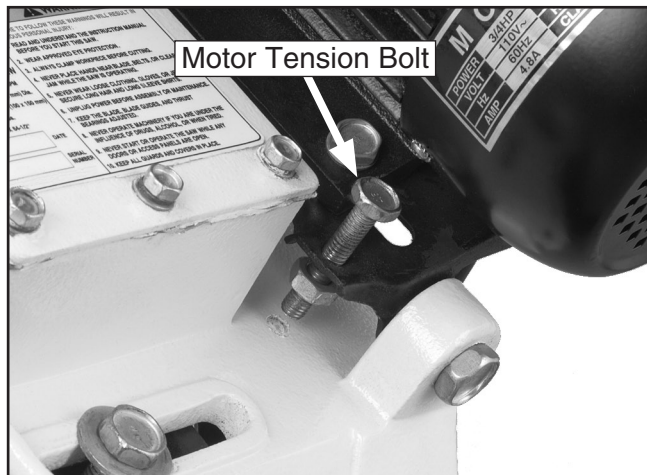

Figure 26. Motor tension bolt.
2. Loosen the motor tension bolt to allow the motor to pivot (**Figure 26**).